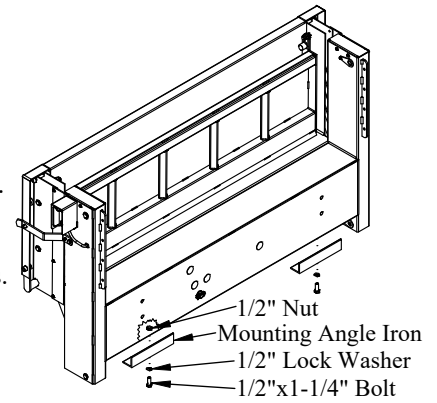

Figure 11: Mounting angle iron location.
- 1. Install** the two (2) mounting angle irons to the bottom of the liftgate (Figure 11).